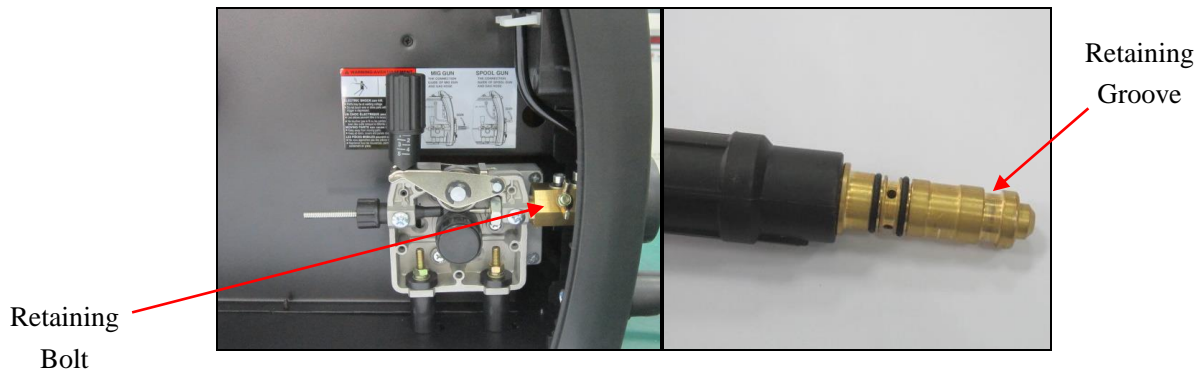

Figure 7
1. Locate the wing nut retaining bolt inside the front panel on the Drive System (Figure 7). Loosen the retaining bolt.
2. Make note of the retaining groove on the back end of the MIG torch (Figure 7).